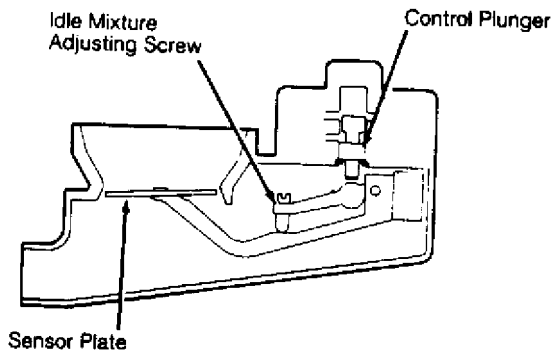

Fig. 1: Identifying Airflow Sensor Components
2) Check sensor play by slowly moving sensor plate through travel range with a magnet. See Fig. 1 Resistance should be felt. Move plate back to rest position. There should be no resistance. If binding is felt, loosen sensor plate hold-down bolt and adjust plate to center of venturi.